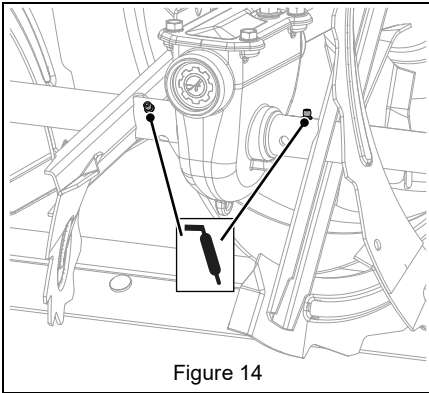

Figure 14
2. Apply grease at the grease zerks. See Figure 14.